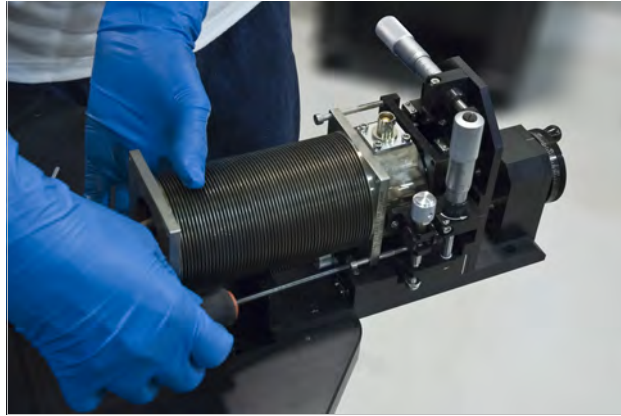

FIGURE 5-23 Loosening the four M4 horizontal screws
2. Using the 3 mm hex driver, loosen the four long M4 horizontal screws that attach the bellows to the z-axis stage, so the probe arm base can rotate (FIGURE 5-23). Simply loosen them two to three rotations; do not remove them.